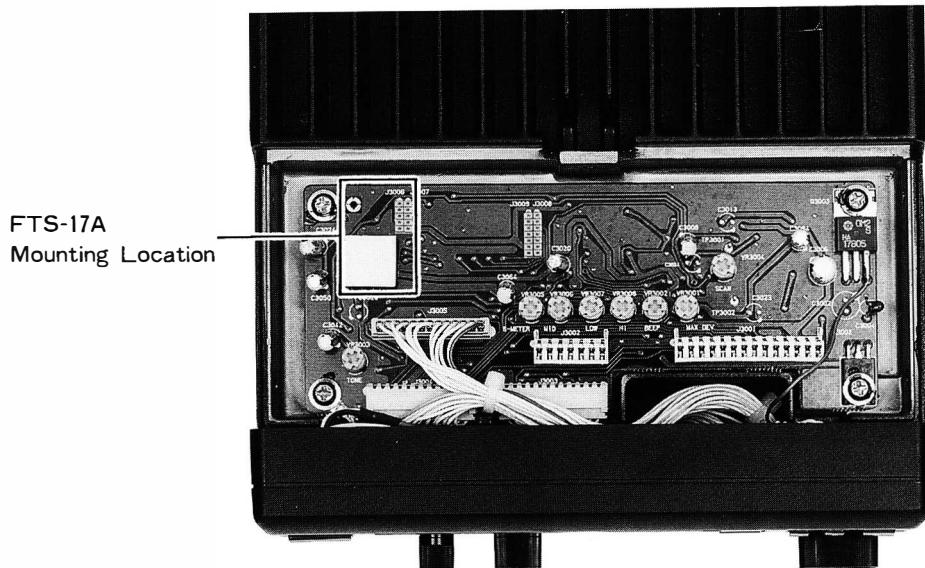

Figure 5
- Referring to Figure 5 below, note the accessory mounting location for the FTS-17A over the smaller of the two empty white connectors. Remove the paper from the double-sided adhesive pad.